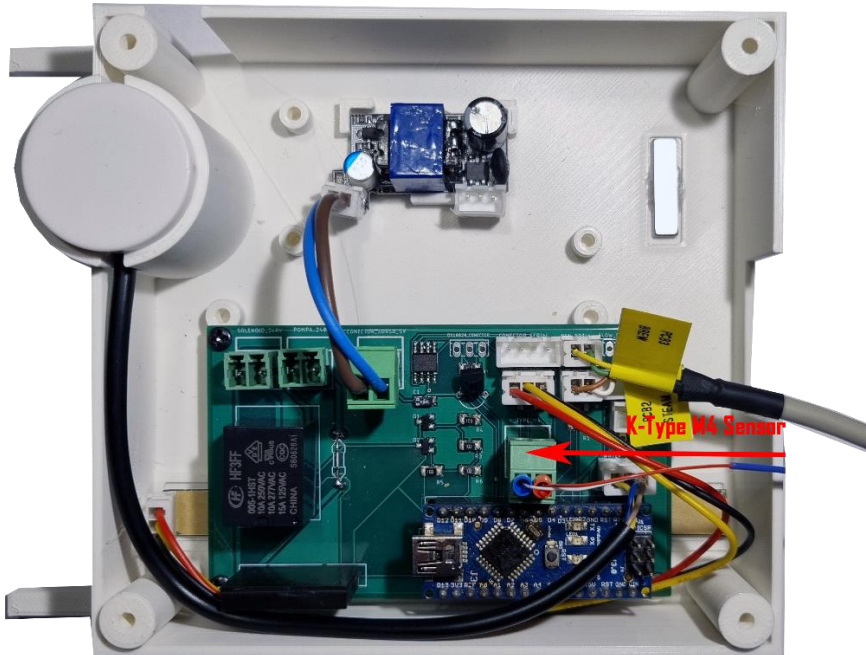

Fig. 6.12
- Plug in the K-Type CABLE - PCB plug and let the rest of the cable outside the case through the big hole (fig. 6.12)